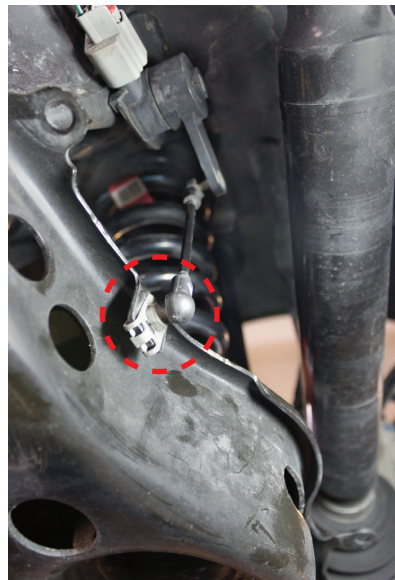

fig. D.2
4. Disconnect the headlight alignment linkage from the lower control arm (if equipped) (Fig. D.2).